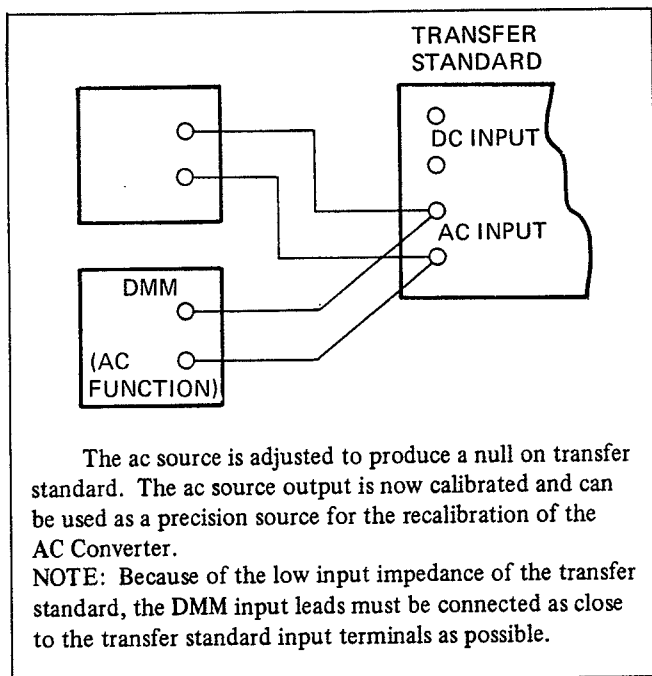

Figure 5.2 - AC Source
5.2.5.1 The generation of accurate AC signals for checking the AC converter ranges, requires the use of a thermal transfer standard and a precise DC standard as well as a stable AC source. Sufficient accuracy can be obtained by using a DC source and the DMM under test. The circuitry connections are shown in Figure 5.2. Information on the use of the transfer standard can be obtained from the operator's manual accompanying the standard. The DMM is used to set the DC source to the desired voltage and the thermal transfer is used to calibrate the output of the AC source. The calibrated AC source is used to check the DMM AC Converter. This procedure is repeated for each range.